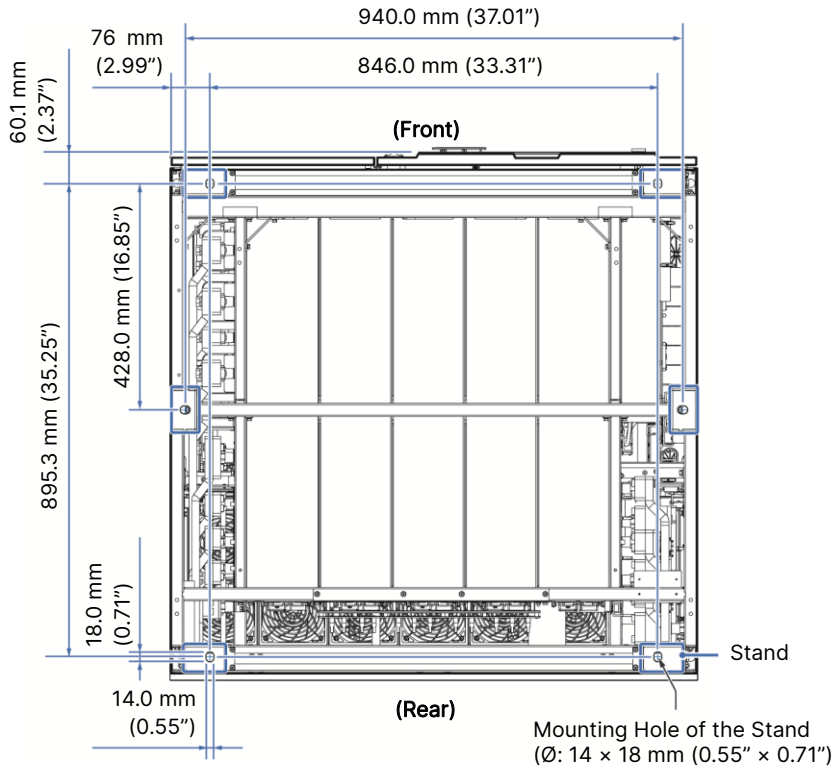
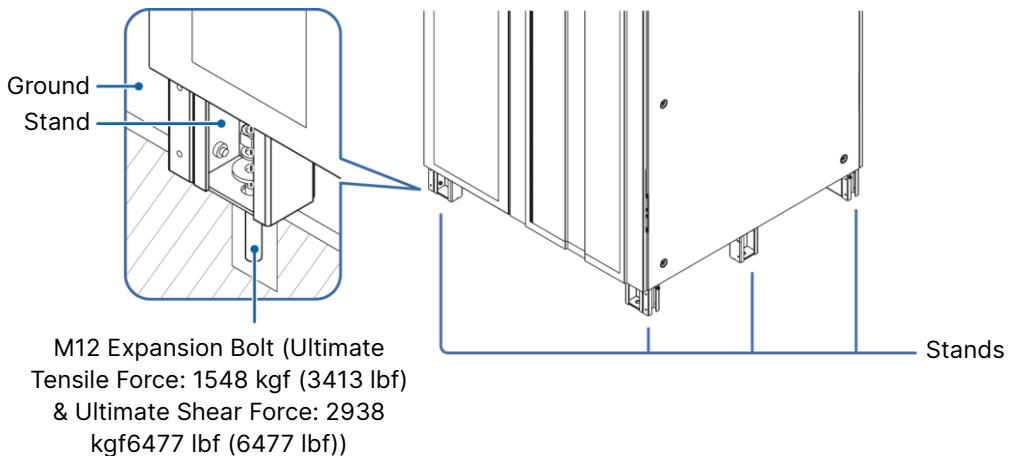

Figure 5-3: Cabinet Floor Fixing Points
Figure 5-4: Fix the Stands on the Ground
- 4 → Fix the two stands at the front bottom of the UPS on the ground. Each stand requires a M12 expansion bolt (provided by qualified service personnel). Please refer to *Figure 5-3* and *Figure 5-4*.